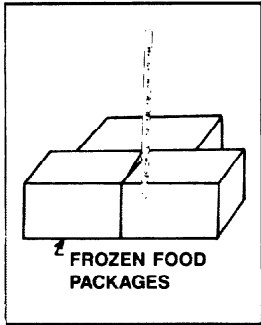

FIGURE 38
**FREEZER:** Place the thermometer in the center of the freezer, surrounded by frozen packages. See Figure 38. Wait 5 to 8 hours, then check the reading. If temperature is not within  $0^{\circ}$  to  $+2^{\circ}\text{F}$ , adjust control as needed, one number at a time and check the temperature again after 4 to 6 hours.